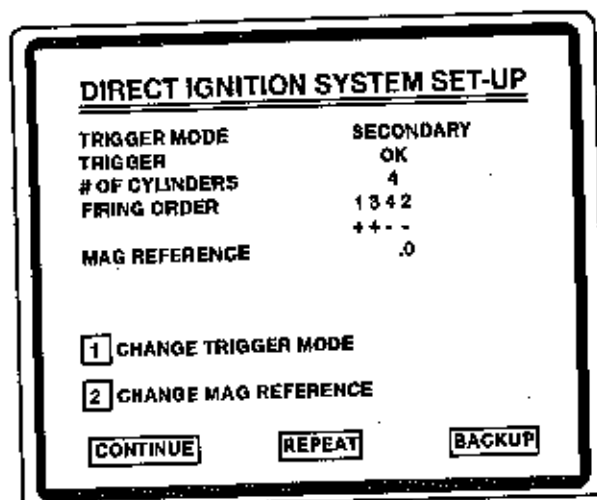
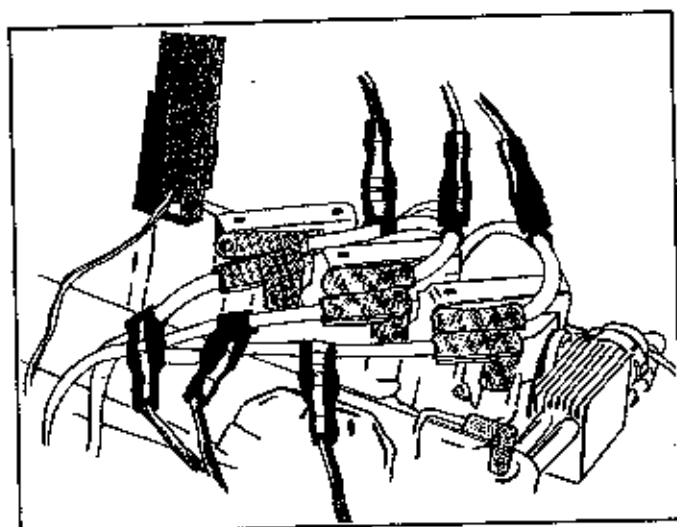

Figure 102
Figure 103
3. The next set-up screen shows the trigger mode. The trigger mode is automatically set to "SECONDARY" for D.I.S. testing (see Figure 102). To use a primary trigger, press [1] to change this line to "PRIMARY," and connect the D.I.S. primary lead (see Figure 103 and "D.I.S. Primary Lead" in the "Introduction" section of this manual).